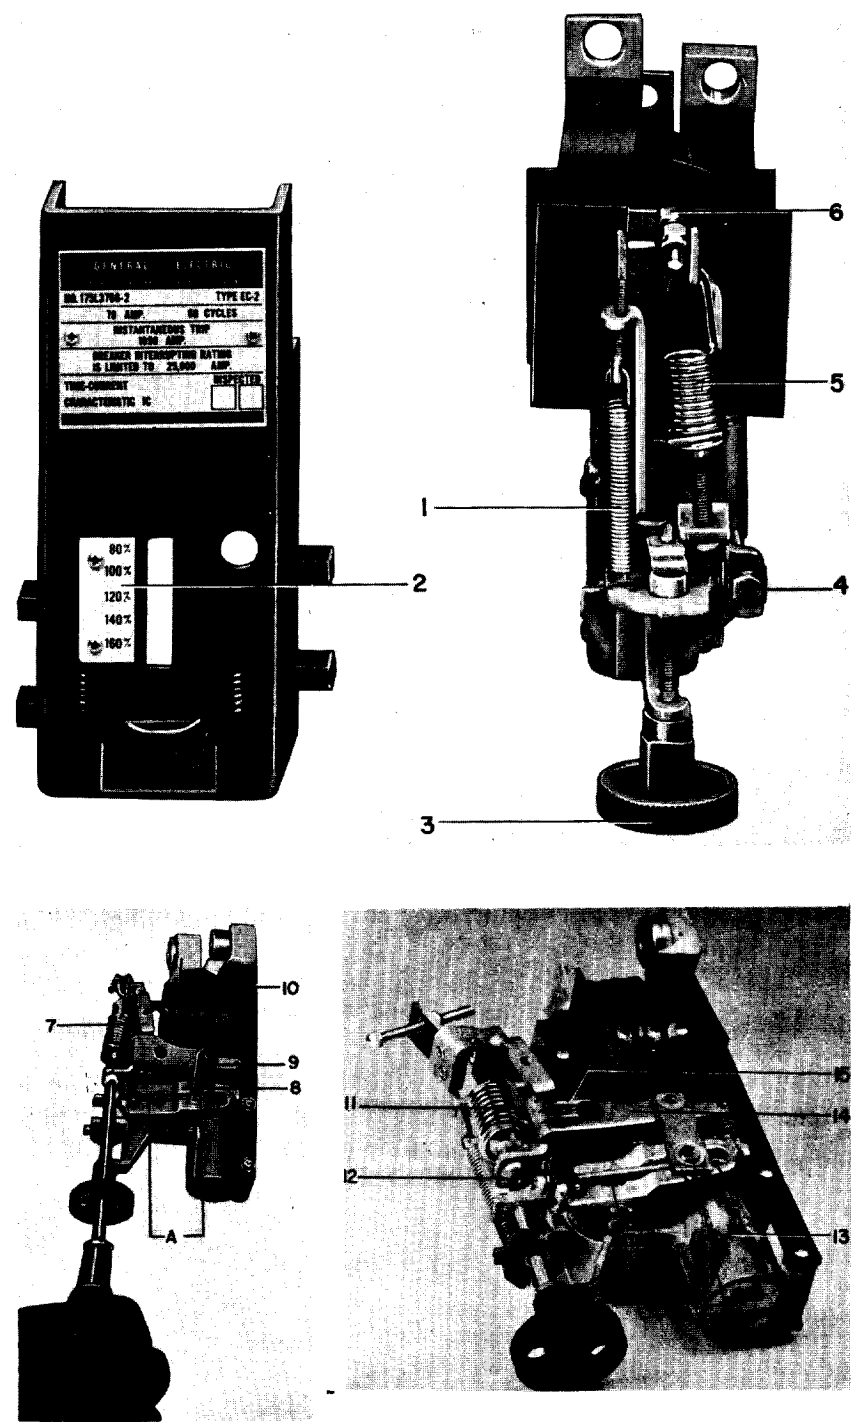

FIG. 121 OVERCURRENT TRIPPING DEVICE — EC-2A
Refer to Fig. 121 for the discussions given below.
Time values are inversely proportional to the effective length of the dashpot arm. Therefore, the linkage setting that gives the shortest time value is the one at which dimension "A", Fig. 121, is greatest. The time adjustment screw (4) may be turned by inserting a Phillips head screwdriver through the hole in the front of the case. If it is desired to relate the linkage setting to the index marks on the linkage it will be necessary to remove the case. This may be done by removing the two mounting screws, one on each side of the case, which may be taken off without disturbing the trip unit itself.